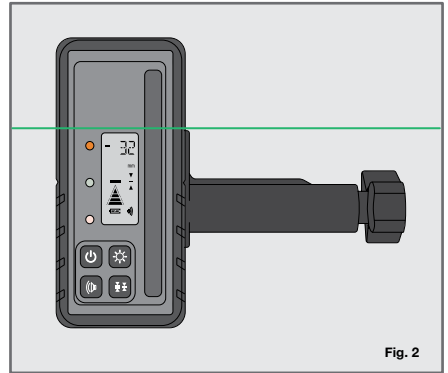
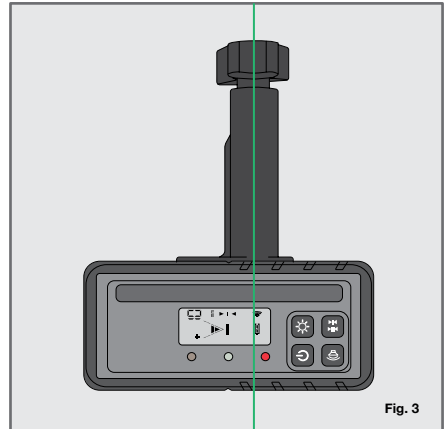
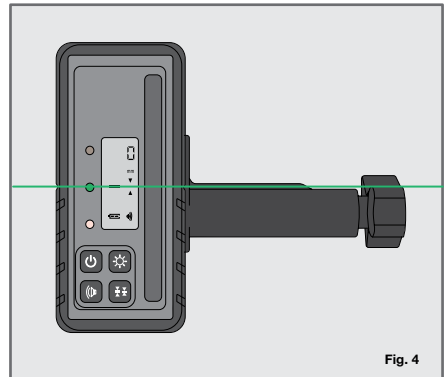

Fig. 2
Fig. 3
Fig. 4
- Hold the detector upright for horizontal beams (Fig. 2) or rotate 90° for vertical beams (Fig.3).
- The direction arrows or level line on the LCD screen will indicate the position of the laser beam. A digital measurement of either how far up or down the detector is from the laser line will also be displayed (Fig. 2 & 3). The detector will emit a constant beep once the level position has been located (Fig. 4).